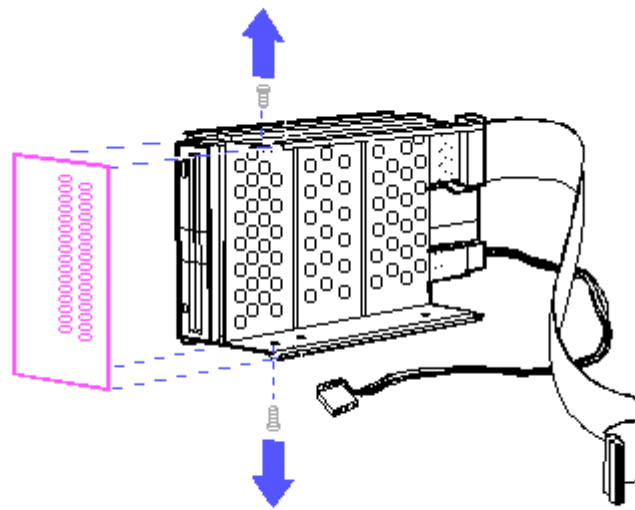

Figure 8-45. Removing the Drive Cover
6. Remove the two screws that secure the drive cover or metal plate covering the front of Drive Position 2 (Figure 8-45).